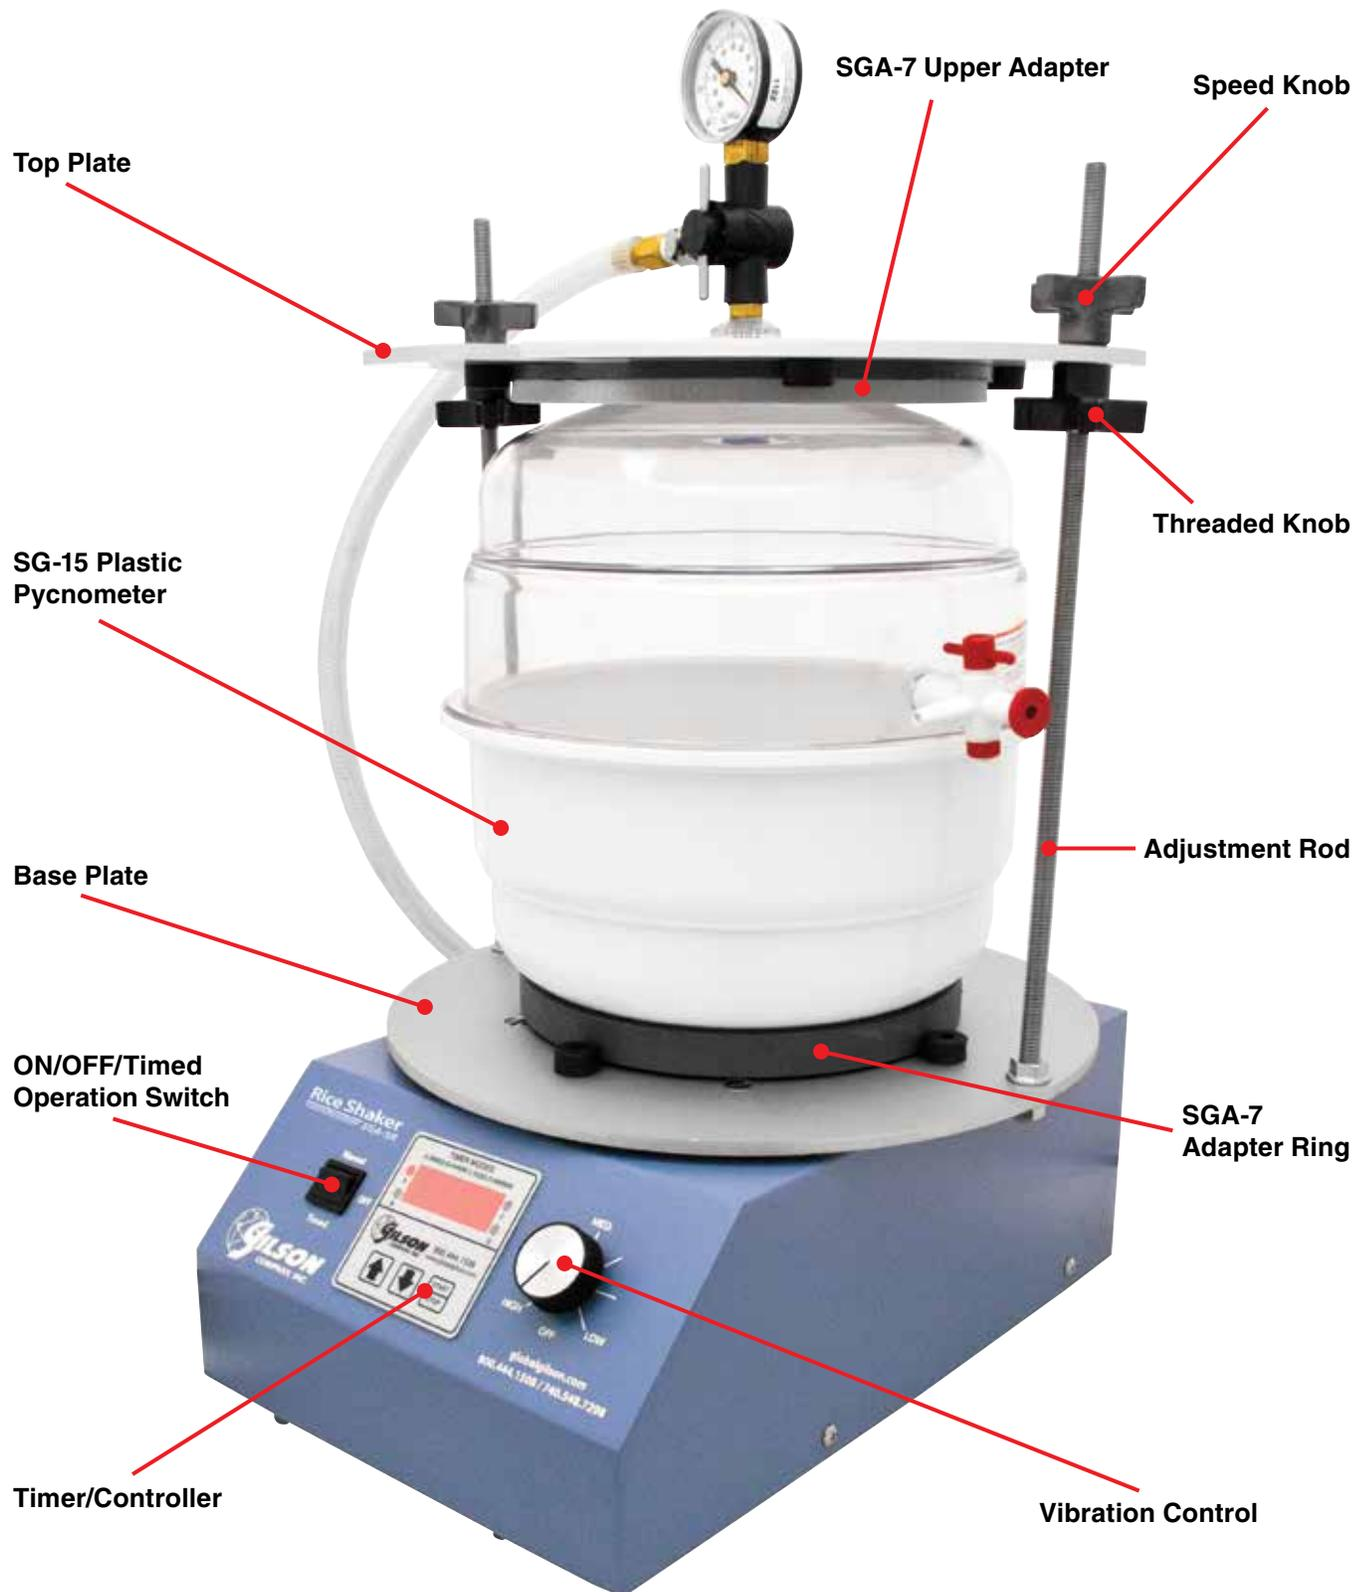

Figure 3
Place the adapter ring of the SGA-7 Adapter Set between the four rubber bumpers on the agitator base, then position the SGA-15 on the ring. The upper adapter of the SGA-7 is placed with the foam side down on top of the pycnometer. Slide the top plate over the adjustment rods and position the adapter between the four adapters (see Figure 3). Adjust the plastic threaded knobs until there is a small gap between the plate and the knobs. Drop the metal speed-knobs onto the rods and tighten so that the plate is pushed down slightly and contacts the threaded knobs. Before turning on the Rice Shaker, always check that both sets of knobs are secure.
5.3 Figure 3: Plastic Pycnometer